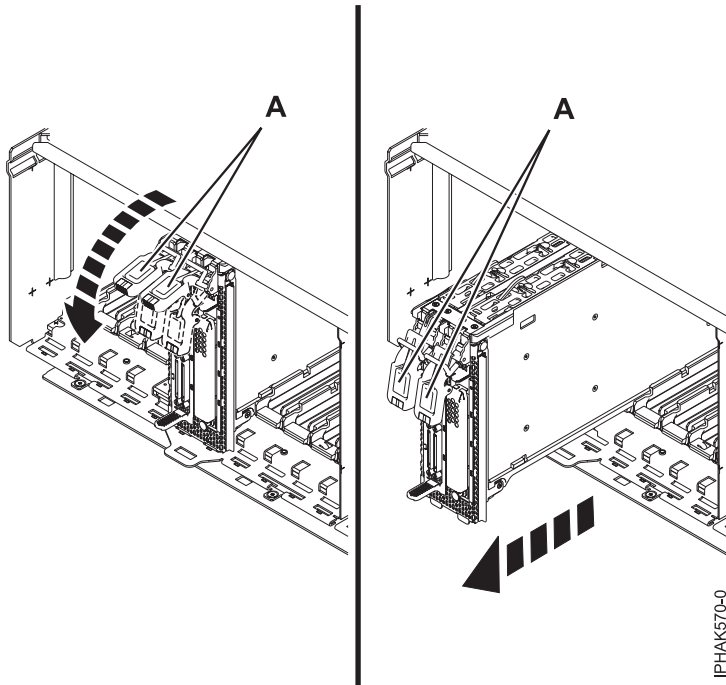

Figure 66. Removing the cassette assembly from the I/O expansion unit
- a. Ensure that the locking arms **(A)** are down as shown in Figure 66 on page 80.
- c. Carefully slide the cassette assembly all the way out of the I/O expansion unit. See Figure 66 on page 80.